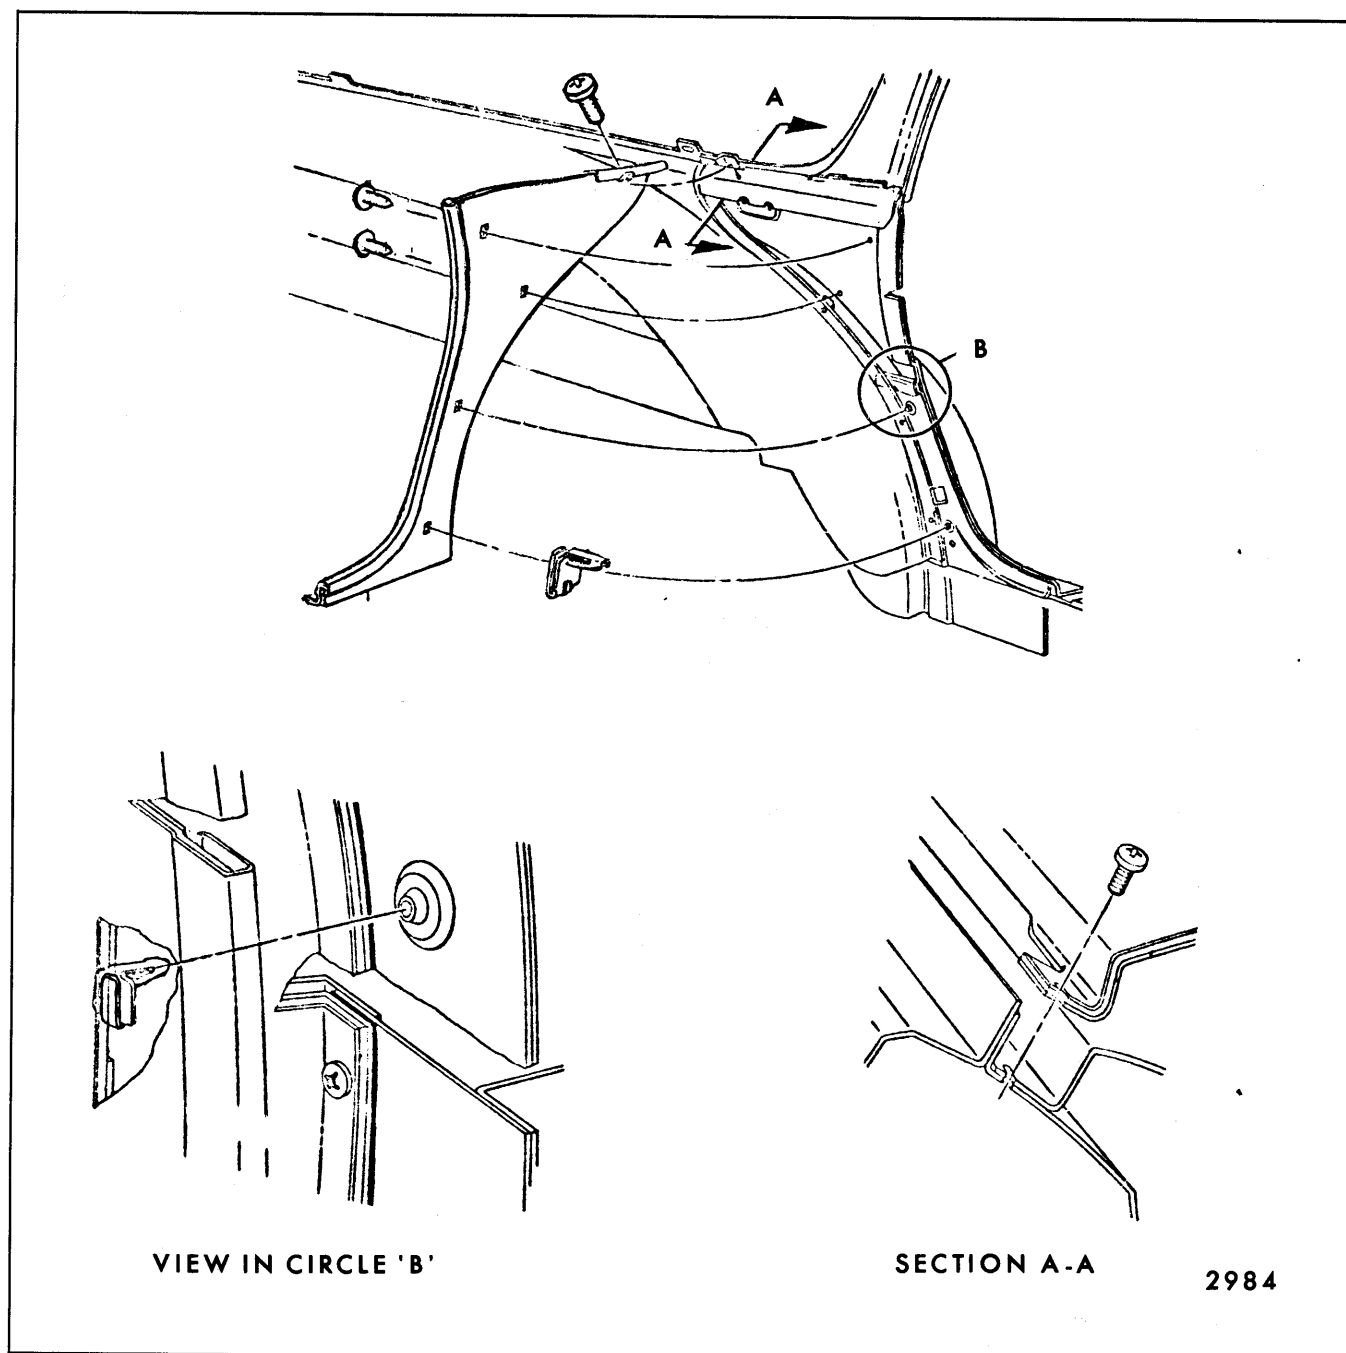

Fig. 14-31—Rear Quarter Front Trim Panel - "A" Station Wagons
3. Remove screws securing trim panel as shown in Figure 14-31.
4. Using a flat blade tool, disengage trim panel retaining clips from plastic retaining plugs in inner panel as shown in Figure 14-31 and remove trim panel.